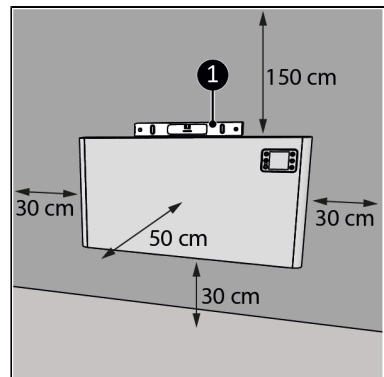

Figure 9.
1. Place the device on a vertical and solid surface. Use a spirit level when placing the device (Figure 9, pos. 1).
2. Place the device with a minimum distance (Figure 9) of: